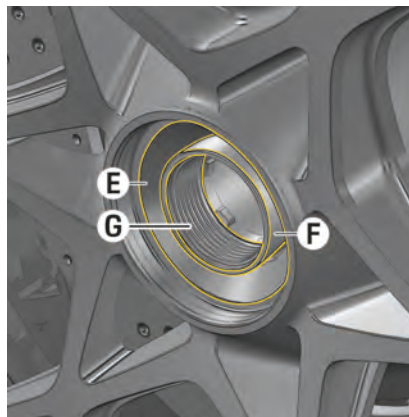

Fig. 205: Lubricate parts
- Wipe old grease and dirt from the conical surface **E** (Fig. 205) in the wheel as well as on the front outside **F** (Fig. 205) of the wheel hub. Then grease very thinly with aluminum paste. This allows the screw connection to slide better into its seat.
- Thread **G** (Fig. 205) in the wheel hub must be well greased. To do this, re-grease with aluminum grease at every screw connection. Do not remove old grease. All other parts must be grease-free.